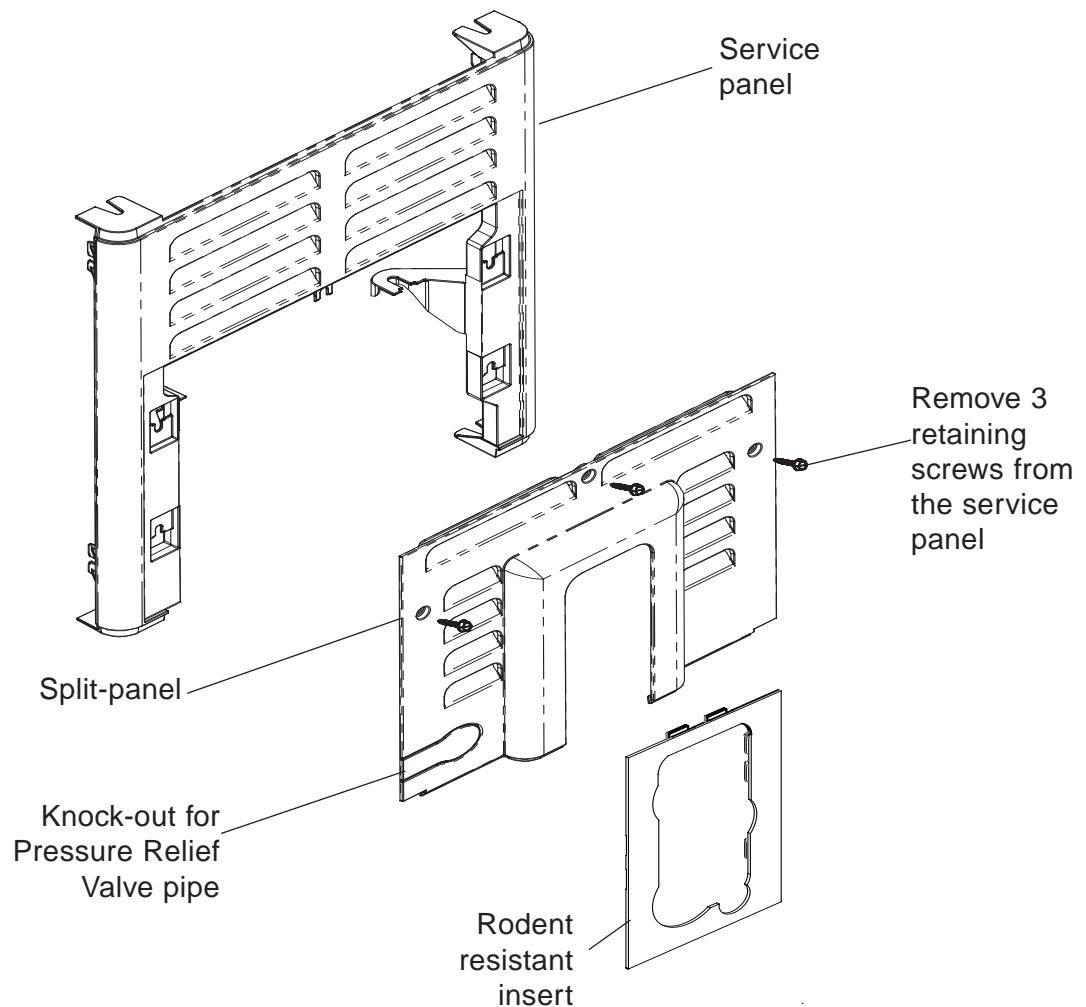

Figure 1.
1. Remove the three retaining screws from the heater front panel. Remove the small front split-panel with the rodent resistant insert. **See Figure 1.**
3. Remove the “knock-out” from the split-panel, see Figure 1.
9. Reinstall the service panel (with split-panel and rodent resistant insert). See Figure 1 on page 3.